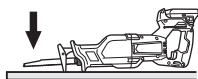

Fig. 22
With this tool, you can perform plunge cutting on plywood panels and thin board materials. You can carry out plunge cutting quite easily with the saw blade installed in reverse as illustrated in Fig. 22, 23, 24.
- (1) Press the lower part of the base against the material. Pull the trigger switch while keeping the tip of the saw blade apart from the material. (Fig. 22)